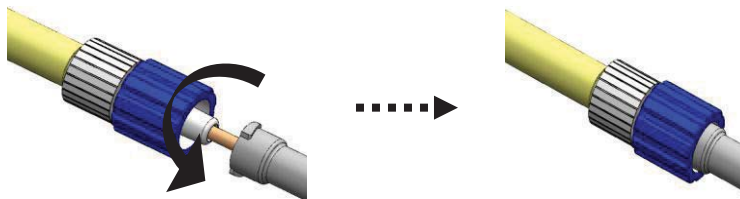
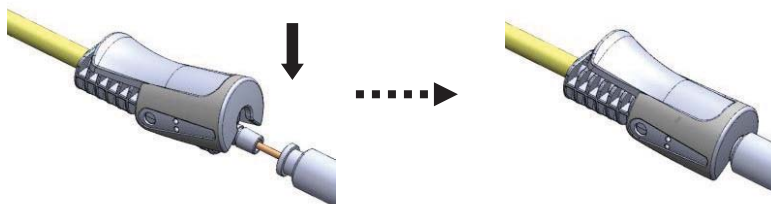

Figure 1: Locking luer type connector. Screw male luer connector to the working channel input.
Figure 2: Locking snap type connector. Press snap over working channel input.
6. Gently insert the catheter through the working channel in small segments of approximately 2cm until the endoscope connector reaches the working channel input. The lock the device endoscope connector to the working channel input. Depending upon the JET PREP Flushing Device model used, the locking is done by: (a) screwing the male luer connector to the working channel input (for luer type connector, Figure 1); or (b) pressing the connector snap over the working channel input (for snap type connector, Figure 2).